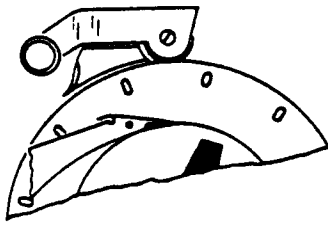

Figure 4-11
- 3) Hold knife blade assembly to the top of the shelf wheel. See Figure 4-11.